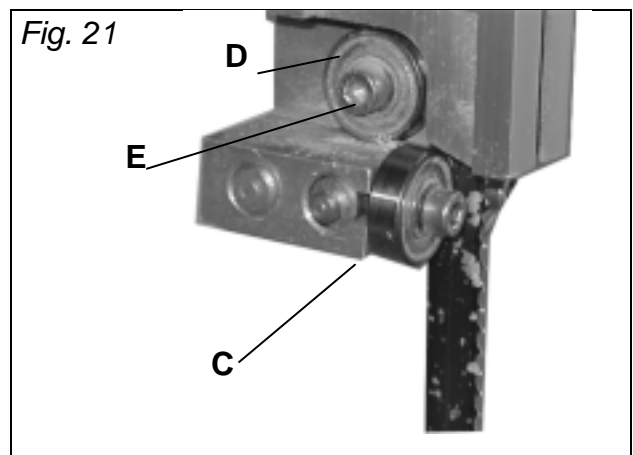

Fig. 21
Finally adjust the large thrust bearing (D) *Fig. 21* to be just clear of the back of the blade by unlocking the socket cap screw (E) *Fig. 21* . When the correct adjustment is reached lock in position with socket cap screw (E).